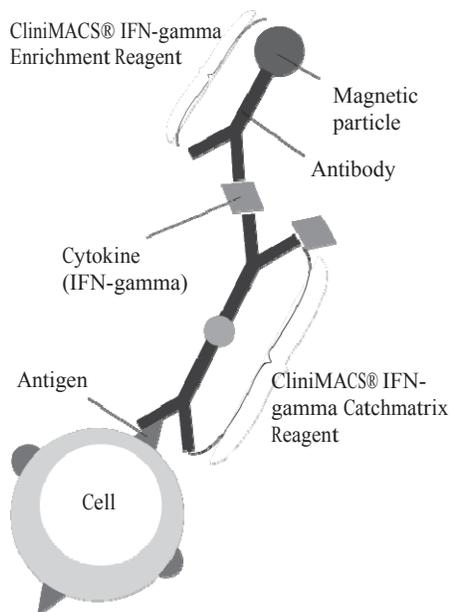

Fig 3.9: CliniMACS® Cytokine Capture System (IFN-gamma).
- Indirectly in a two-step labeling procedure called CliniMACS® Cytokine Capture System (IFN-gamma). First of all cells are *in vitro* restimulated to secrete the cytokine (e.g. IFN-gamma). In a first labeling step the re-stimulated cells are labeled by a hybrid-molecule consisting of a leucocyte-specific antibody and a cytokine-specific antibody, called the CliniMACS® IFN-gamma Catchmatrix Reagent. The cells are then incubated to allow secretion of the cytokine, which is “captured” by the catchmatrix on the cell surface. Subsequently, in a second labeling step the cytokine secreting cells are labeled with cytokine-specific antibodies conjugated to super-paramagnetic iron-dextran beads (CliniMACS® IFN-gamma Enrichment Reagent), (see Fig. 3.9).